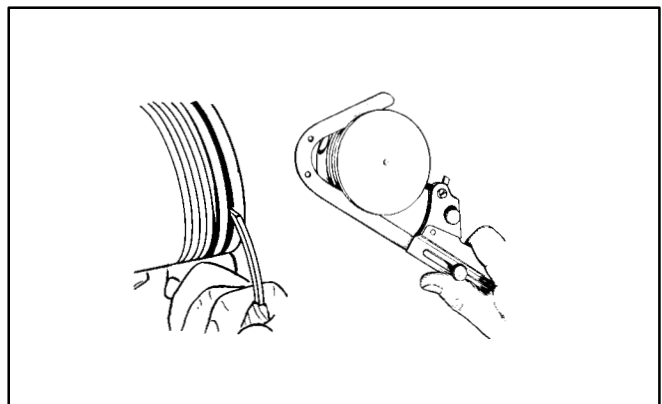

FIGURE 78. PISTON RING GROVE CLEANER
7. Remove dirt and deposits from the piston surfaces with an approved cleaning solvent. Clean the piston ring grooves with a groove cleaner, or with the end of a piston ring filed to a sharp point (Figure 78). Take care not to remove metal from the sides of the grooves.